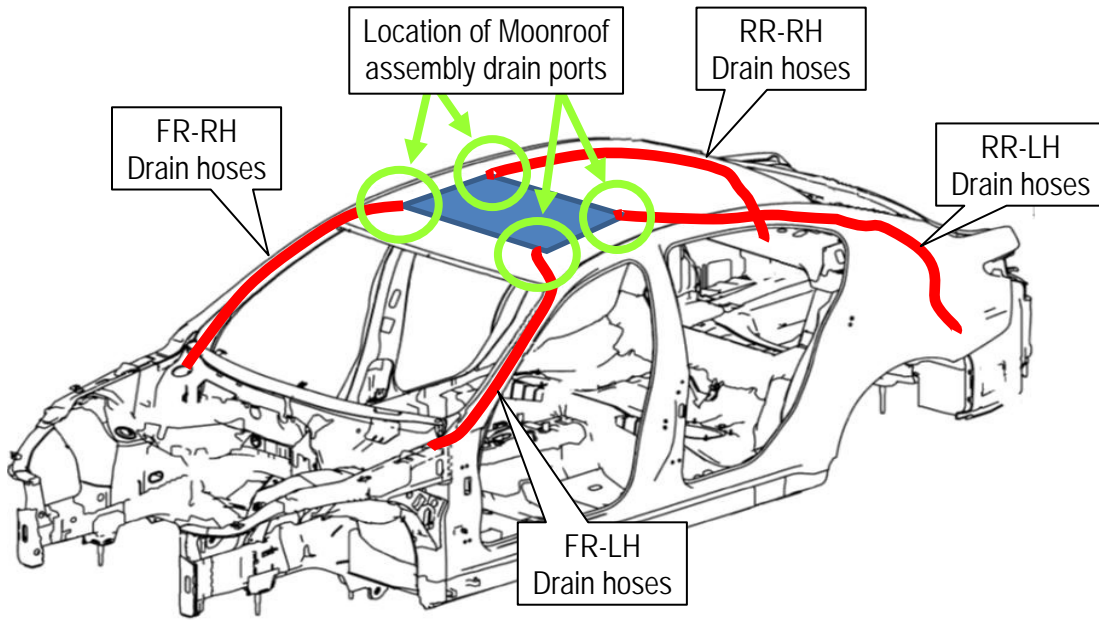

Figure 1
Figure 1 shows the hoses that will be replaced in the following procedure.
4. Disconnect all four Moonroof drain hoses (Figure 1) one at a time from the Moonroof assembly drain ports and blow compressed air into them to remove any residual water and/or debris.